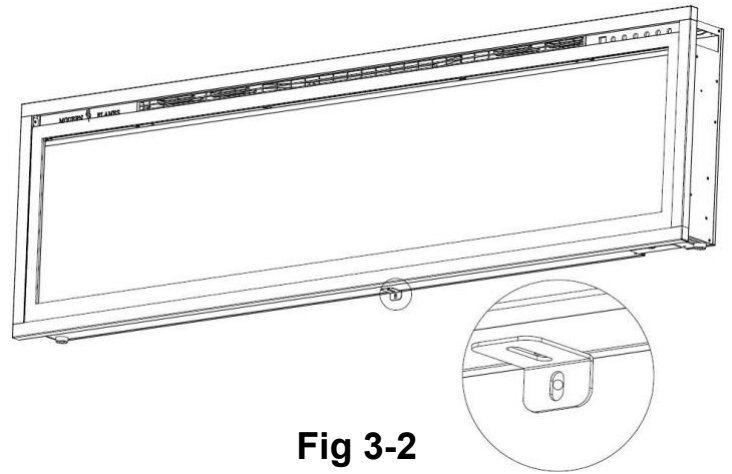

Fig 3-2
B. Using the screw previously removed, attach the L-bracket (O) (supplied) to the bottom of the fireplace box. **(Fig 3-2)**.